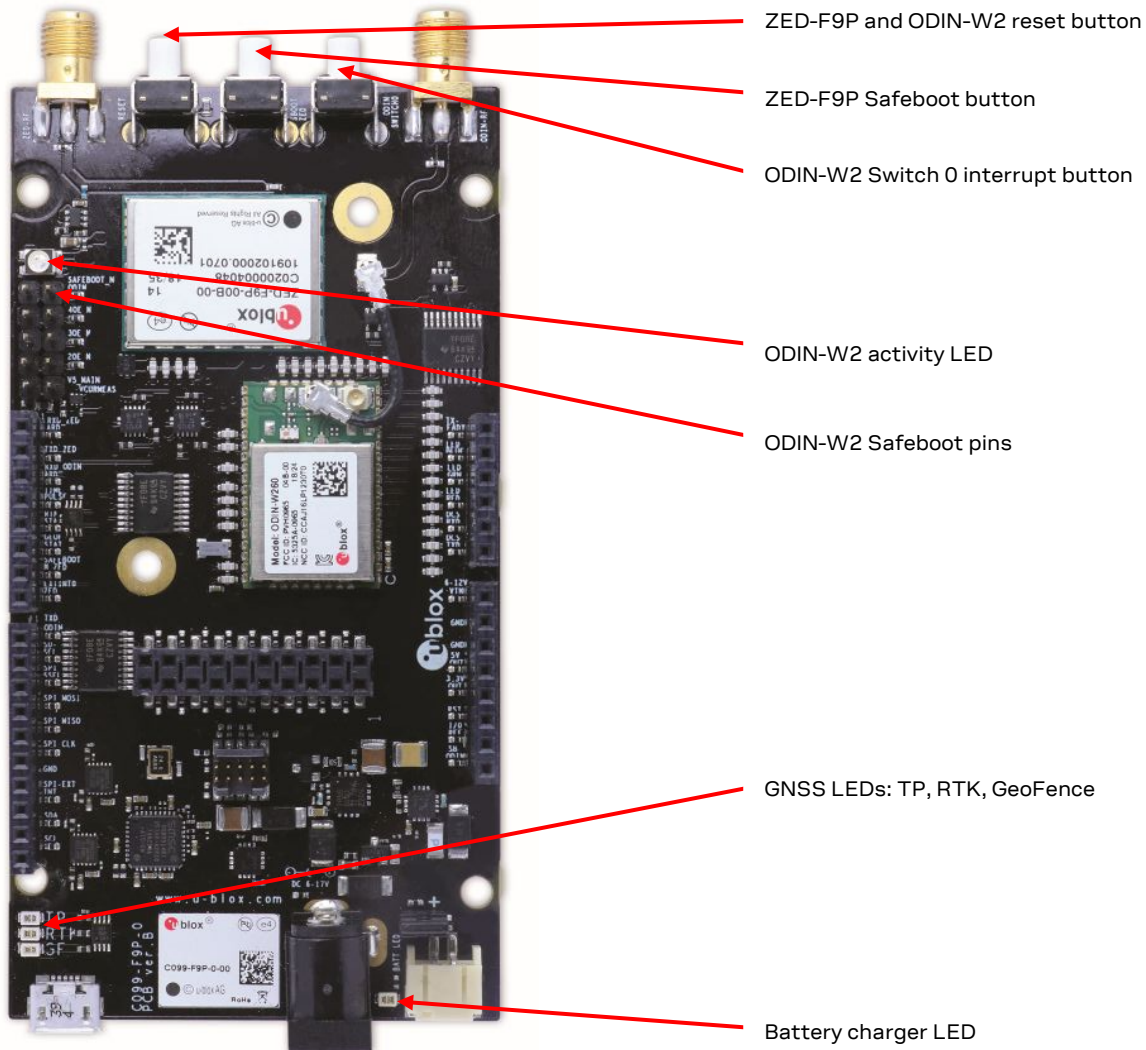

Figure 6: Switches and LEDs
- Switches and LEDs – Figure 6.